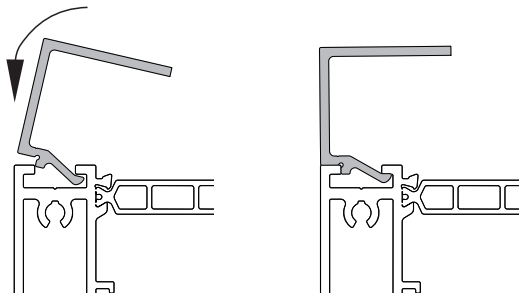
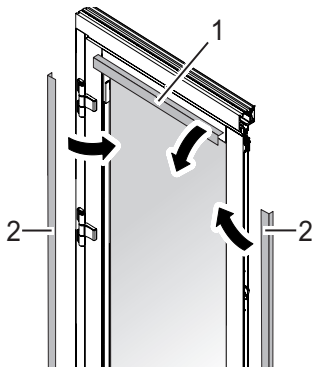

Fig. 37: Mounting the glass clamping profile
Fig. 39: Inserting the glass clamping profiles
3. Insert the glass clamping profile (Fig. 37) into the profile in an inclined way and press down at the leading edge.
5. Insert the glass clamping profile on the opposite front side (Fig. 39/1) into the profile in an inclined way and press down at the leading edge (Fig. 37).
7. Insert the glass clamping profiles and seal at the long sides (Fig. 39/2).